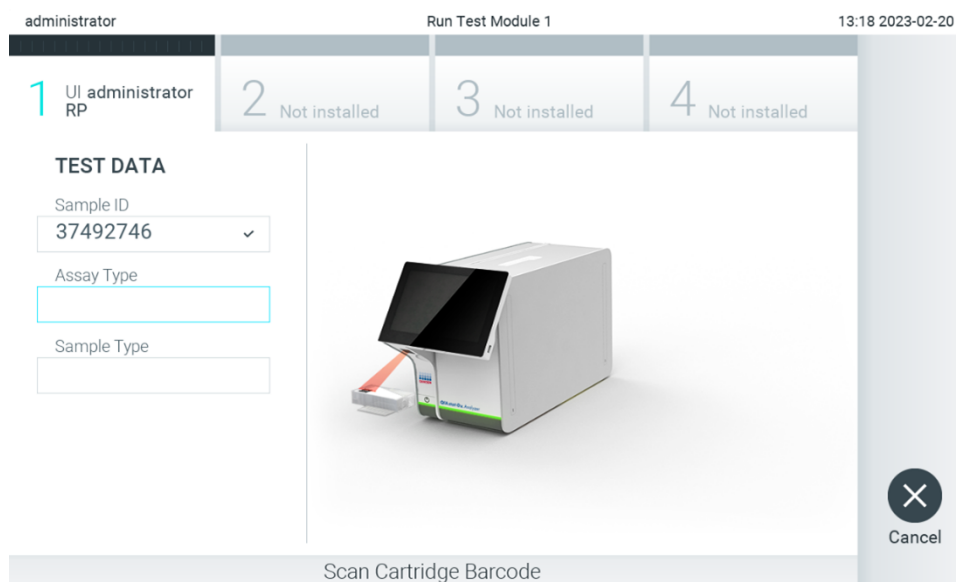

Figure 87. Scanning the QIAstat-Dx assay cartridge bar code.
3. Scan the barcode of the specified QIAstat-Dx assay cartridge when the test order has been successfully retrieved from the host and the Scan cartridge for assay <assay_name> and book order <order_number> message is displayed (Figure 87).